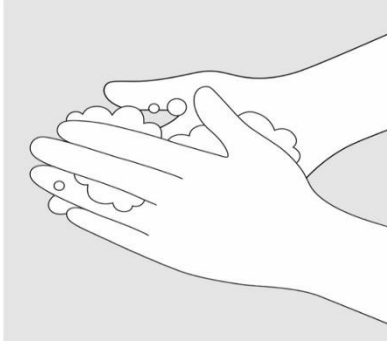

Figure 1: Wash hands Reconstitution
1. Wash hands before opening the syringe package. (Figure 1)